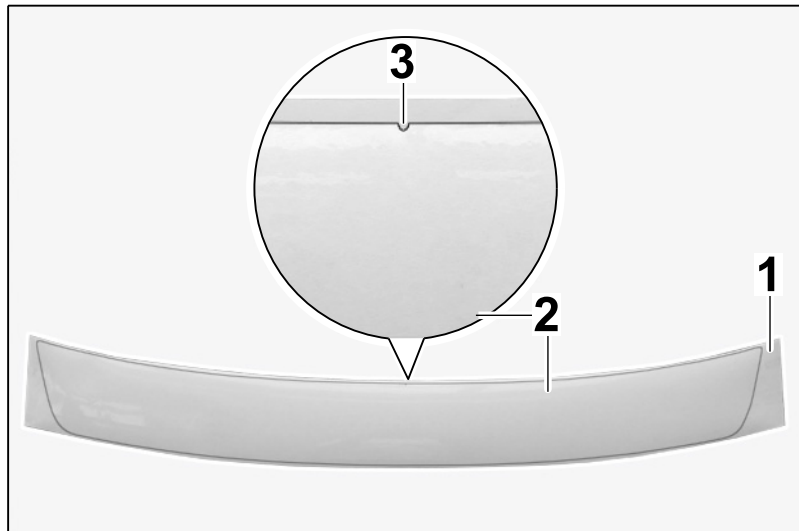

Figure 2
1 x Loading sill guard \Rightarrow Figure 2, comprising:
- 1 – Marking, see also Figure 2, inset
- 3 (2) – Edge of bumper